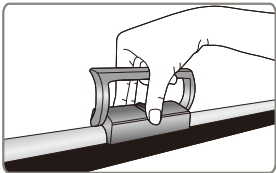

Figure 13
1. Grasp the handle and retract the screen into the casing till the handle base is firmly fastened in the tube lock (Figure 13 - 15).